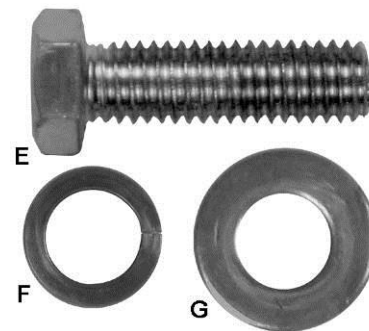

Figure 5
1. Remove *shipping bracket* (A) which is securing the *motor* (C) to table.
2. After the shipping bracket has been removed, install the *screw* (B) back into the motor support bracket. The upper screws will be used to later to hold the extension wing in place.
3. Remove *shipping bracket* (D) which is holding *switch assembly* (E) to table. Do not discard the bracket (D); it will be used to install the switch.
4. Remove the remaining *hex cap screw*, *lock washer*, and *flat washer* (F and Fig. 5) in the table edge.
5. Install *motor cover* (G) by aligning the *pins* (H) on the cover with *brackets* on the cabinet.
6. Fasten cover by pulling out the *latch* (J), closing the door, and releasing the latch.
- **Hardware:** (6) 7/16" x1-1/2" Hex Cap Bolts, (6) 7/16" Lock Washers, (6) 7/16" Flat Washers & (2) Extension Wings
1. Attach the left *extension wing* (A) to the *table* (B) with three each *hex cap screws* (E), *lock washers* (F) and *flat washers* (G). Snug so the extension wing can still be manually adjusted but do not tighten.
2. Adjust the extension wing horizontally so the front edge is flush with the front edge of the saw table (C). Then, using the straightedge as reference, adjust vertically so the tops of the extension wing and saw table are flush.
4. Remove the mounting hardware (Fig. 5) from the table on the right side; then attach the right extension wing in the same manner.